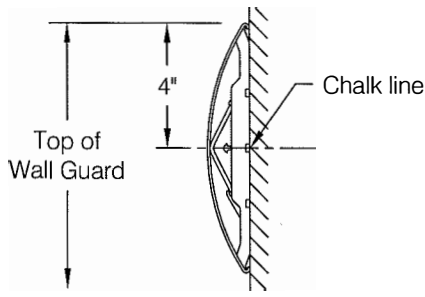

fig 1
- Step 1:** Determine top of wall guard height and snap a chalk line 4" below to locate centerline of wall guard and to provide a reference line for locating WG-7C Red-E-Clip[®] retainers, see **fig 1**.